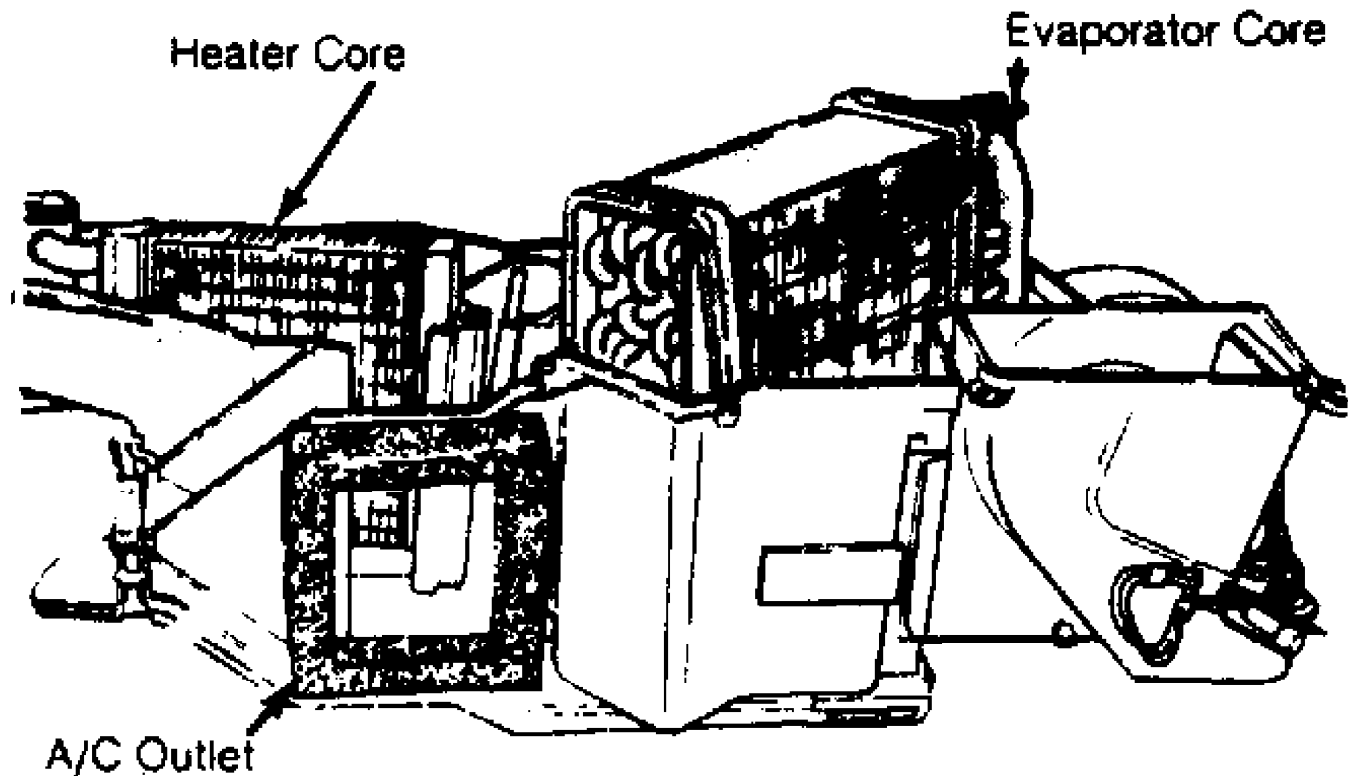

Fig. 3: A/C-Heater Unit Removed
15) To remove heater and evaporator cores, remove unit top cover. See Fig. 3. Remove heater core to dash panel seal from heater core tubes, and remove heater core. Remove expansion valve sealing plate seal retaining screw. Remove evaporator core. To install, reverse removal procedures.
2) To remove heater and evaporator cores, remove unit top cover. See Fig. 3. Remove heater core to dash panel seal from heater core tubes, and remove heater core. Remove expansion valve sealing plate seal retaining screw. Remove evaporator core. To install, reverse removal procedures.
6) To remove heater and evaporator cores, remove unit top cover. See Fig. 3. Remove heater core to dash panel seal from heater core tubes, and remove heater core. Remove expansion valve sealing plate seal retaining screw. Remove evaporator core. To install, reverse removal procedures.